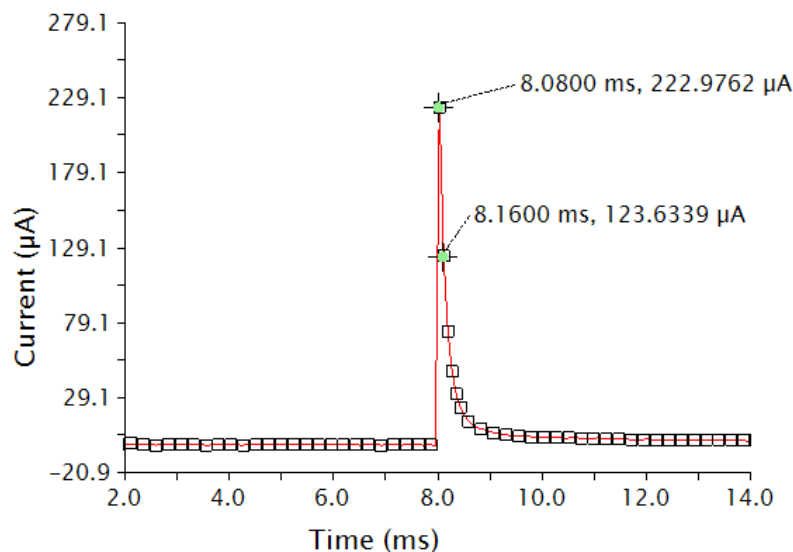

Figure 2.1. Example double potential step or cyclic step chronoamperogram.
- Perform the double step experiment. You should expect to see a response similar to the following Figure 2.1:
- Calculate the slope of the line formed between the first two data points after the second potential step. In the data in Figure 2.1, the slope is -1.242 A/s.
- Determine the y-intercept (i_0), accounting for the 8 ms time offset. Since the potential step in Figure 2.1 was not performed until $t = 8$ ms, all x values are offset by 8 ms. For example, the first crosshair at $t = 8.08$ ms, $222.9762 \mu\text{A}$ becomes the point $t = 0.08$ ms, $222.9762 \mu\text{A}$. To find the initial current i_0 (the y-intercept of the plot in Figure 2.1), use $y = mx + b$ where $x = 0.08$ ms, $y = 222.9762 \mu\text{A}$, and $m = -1.242$ A/s. Solve for b .